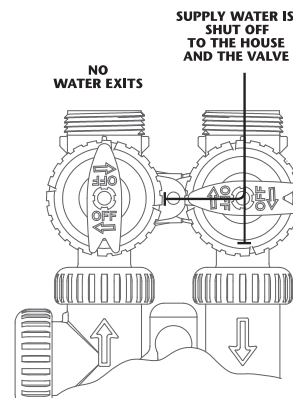

Figure 4
4. **SHUT OFF POSITION:** The inlet handle points to the center of the bypass valve and the outlet handle points away from the control valve. The water is shut off to the building. The water treatment system will depressurize upon opening a tap in the building. A negative pressure in the building combined with the softener being in regeneration could cause a siphoning of brine into the building. If water is available on the outlet side of the softener, it is an indication of water bypassing the system (**Fig. 4**) (i.e. a plumbing cross-connection somewhere in the building).